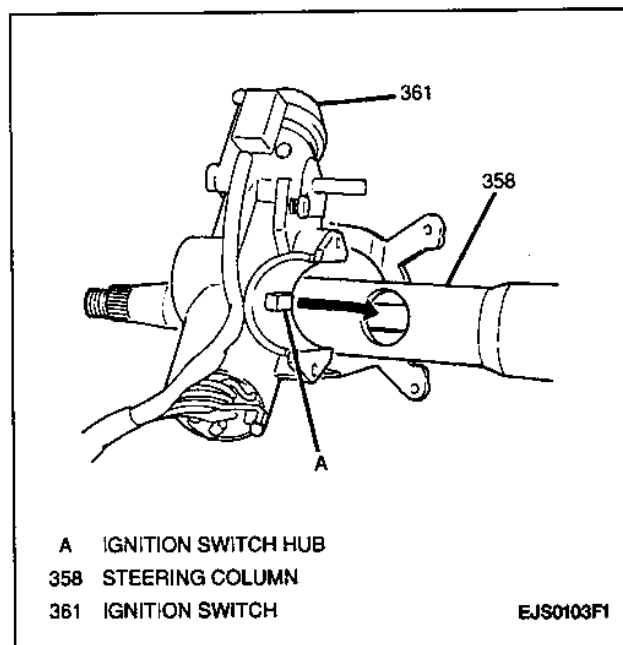

Figure 14—Aligning Ignition Switch Hub With Steering Shaft Hole
4. Align the ignition switch hub with the oblong hole in the steering shaft; rotate the shaft to ensure that the steering shaft is locked (Figure 14).